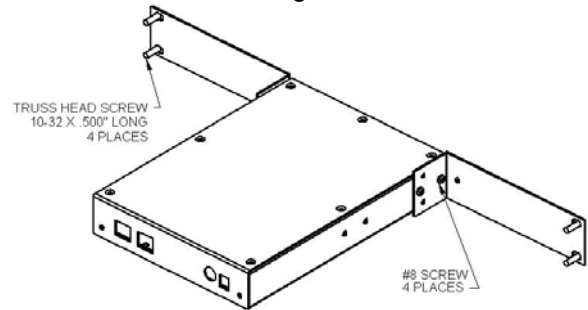

Figure 1. Rack Mount
**Rack:** Following the assembly drawing, attach the two mounting brackets to the VIP-812A unit. Using rack screws, mount the VIP-812A in an available 1U rack slot. See Figure 1.